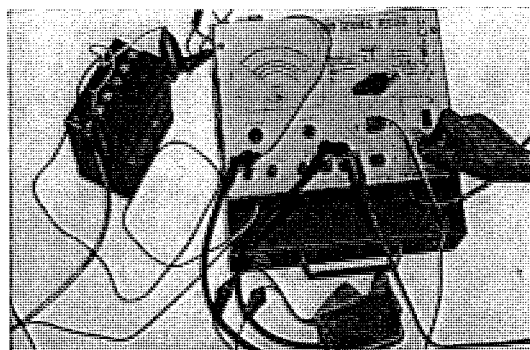

Fig. 5.11 Ignition coil measurement
- b. The quantitative judgment of performance coil testing can be conducted by employment of the service tester. The test can be performed by allowing spark generation between needles (3) while the interrupter is in operation. (Refer to Fig. 5.11)